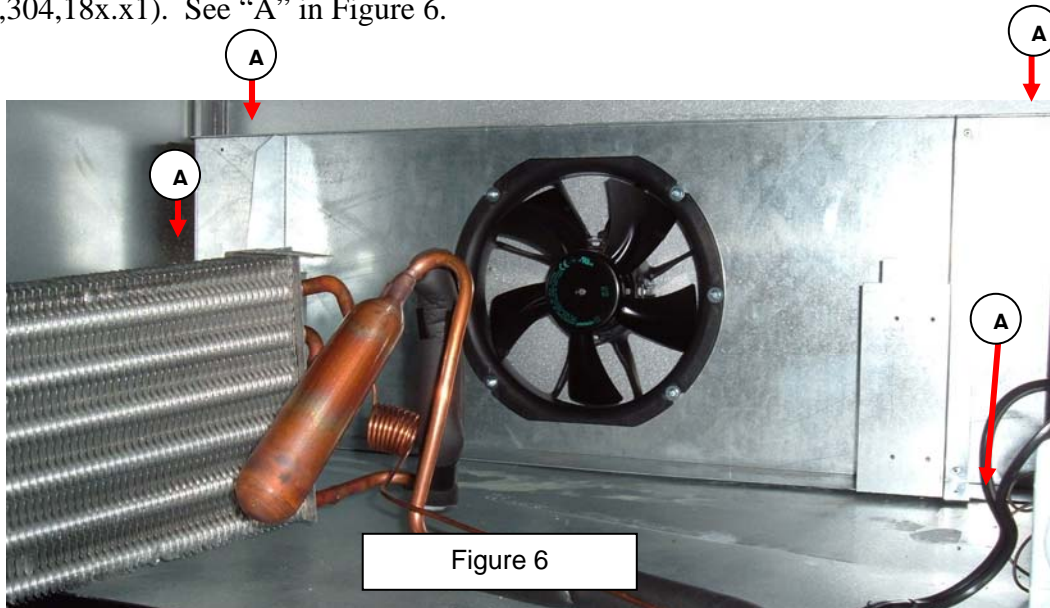

Figure 6
23. With a drill, secure the Evaporator Fan Shroud Assembly with four (4) new Self Drilling Screws (800,304,18x.x1). See "A" in Figure 6.